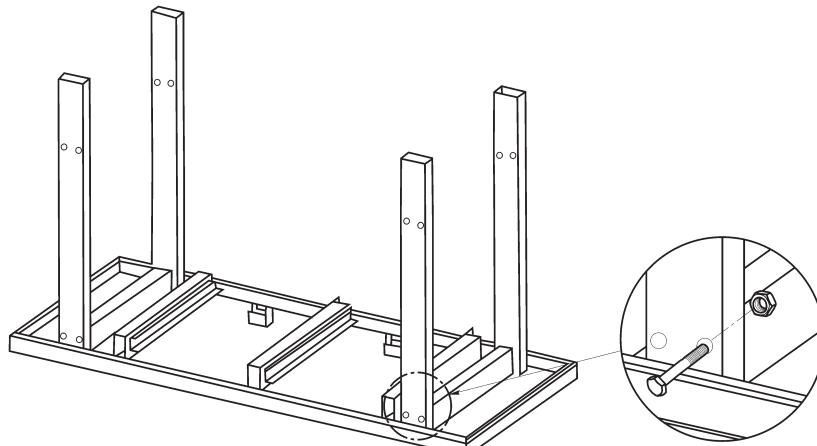

Figure 1
1. Position the work bench top face down on a solid surface, allowing yourself plenty of room to assemble the bench. Attach the bench legs using four bolt and nut combinations per leg (see Fig 1).